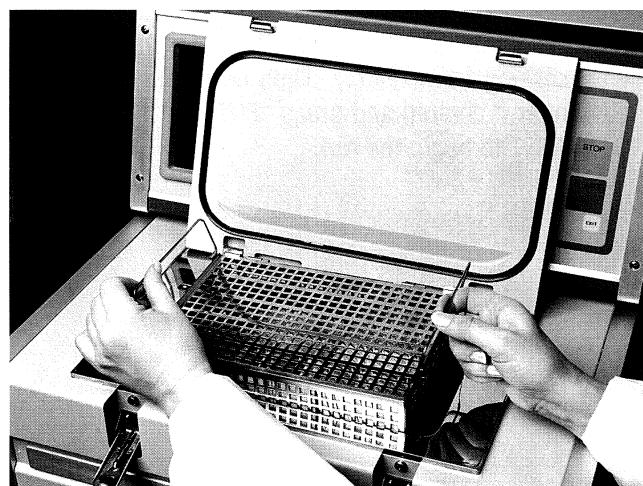

Figure 4-2
- c. Open the retort by sliding the retort bar to the left and unhooking the retort latches. Place the basket(s) into the retort, rotating the handles so they lay flat against the basket lid (Figure 4-2). Close and latch the retort lid, then slide the retort bar to the right. Make sure the message “Retort Lid unlocked” has disappeared from the display.